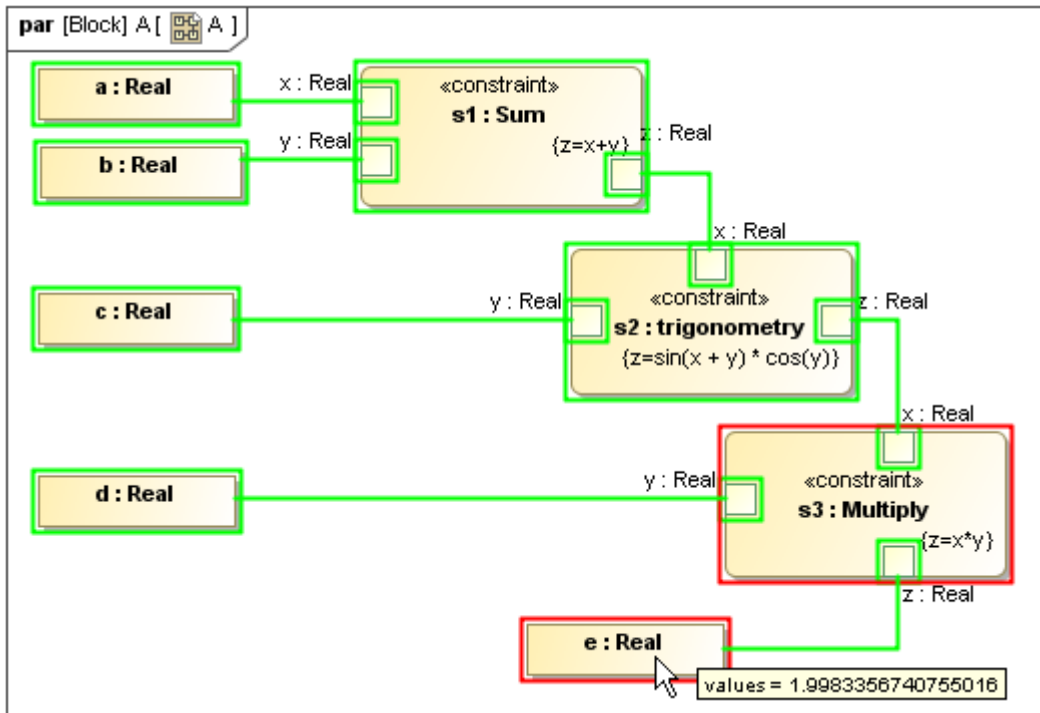

Figure 95 -- Simulation with Parametric Simulation Engine
- Click the **Run** button  to start the simulation. The Parametric Simulation Engine will simulate your Parametric model (with animation on your diagram), and input the calculation result into the corresponding slot of the selected InstanceSpecification automatically (Figure 95).